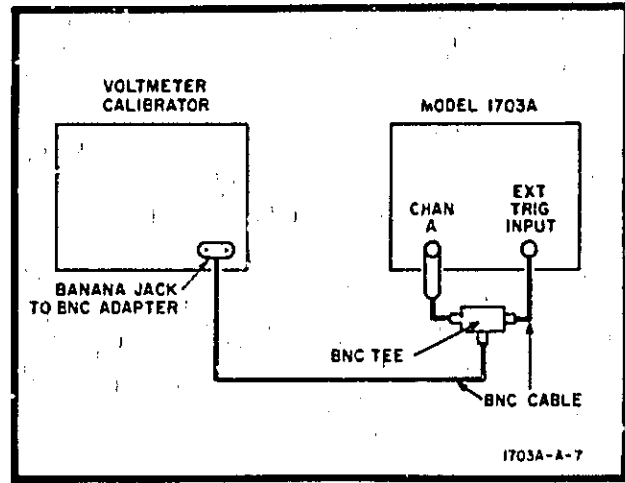

Figure 5-17. Delayed Trigger Level Range and Polarity Test Setup
e. BNC Cable 9 in. (2).
a. Connect instruments as shown in figure 5-17.